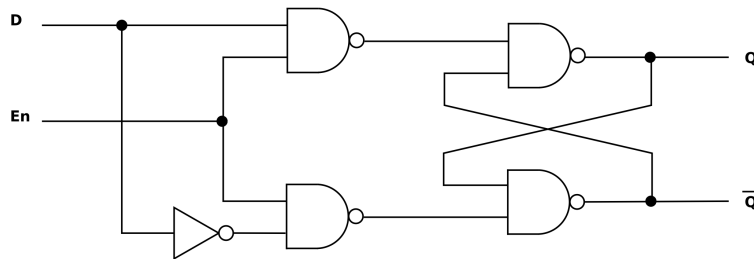
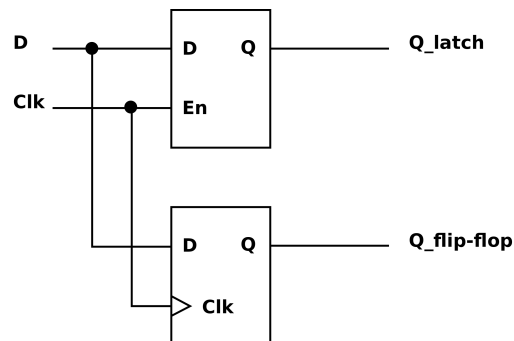
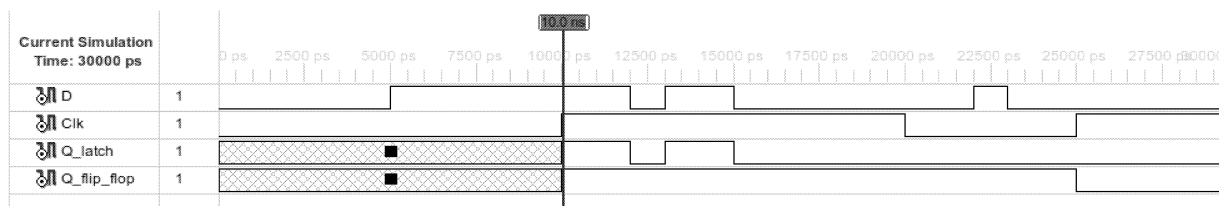

Figure 3: D-latch Gate-level Schematic
Figure 4: Latch/Flip-flop Circuit
Figure 5: Simulation Waveform of Latch/Flip-flop Circuit
latch, as seen in Figure 3. The function table for the D-latch can be found in Table 2. The behavior of the D-latch is simple. When  $En$  is high, the input,  $D$ , is forwarded to the output,  $Q$  (i.e. the input is transparent); however when  $En$  is low, the output simply holds the last value of  $Q$ .
A D-latch is considered a *level-sensitive* memory device because the output is controlled by the level (i.e. high or low) of the  $En$  signal. Conversely, we can create an *edge-sensitive* device such that the output changes when the control signal transitions from low to high or vice versa. This sort of device is known as a flip-flop, and the control signal is usually referred to as a Clock (for reasons which will become clear later in the lab) or  $Clk$  for short. Consider the circuit in Figure 4 in which a level-sensitive D-latch and an edge-sensitive D flip-flop are stimulated with the exact same input. Figure 5 depicts the simulation waveform
1. Complete the waveform below given the circuit in Figure 4. For the  $S$  and  $R$ , assume the D-latch is constructed as shown in Figure 3. You may submit a hand drawn waveform.
- (a) Figure 3 illustrates the gate-level construction of a D-latch. Using the module interface below and the code above as a starting point, describe the D-latch in *structural* Verilog. Assume NOT gates also have a delay of 2ns each.